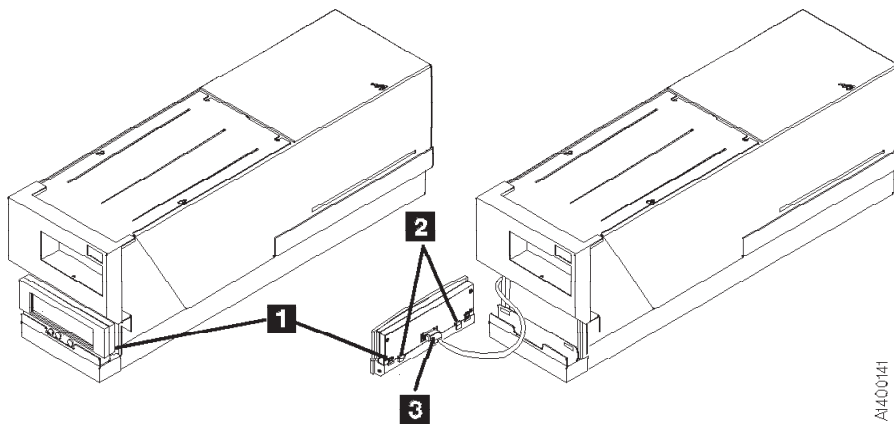

Figure 10-5. Operator/CE Panel, Model B1A/E1A/H1A
2. See Figure 10-5. Press the two buttons **2** on the rear of the panel **1**.